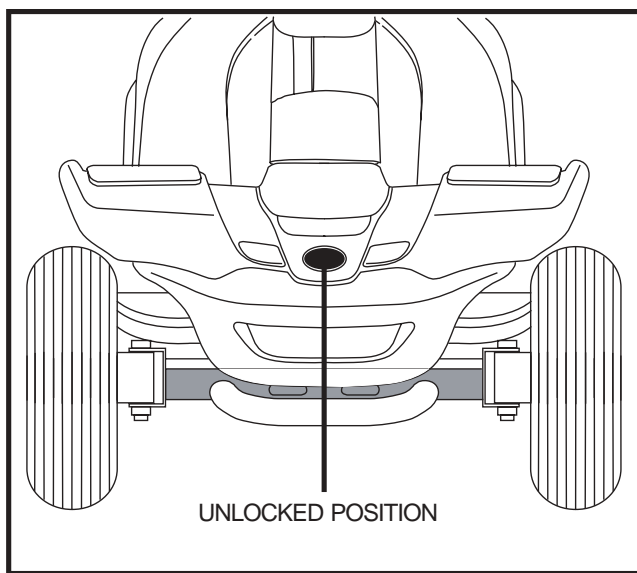

Figure 21A. Tiller Lock Knob (Unlocked)
9. Unlock the front wheel by turning the tiller lock knob 90° anticlockwise. **See figure 21A**.